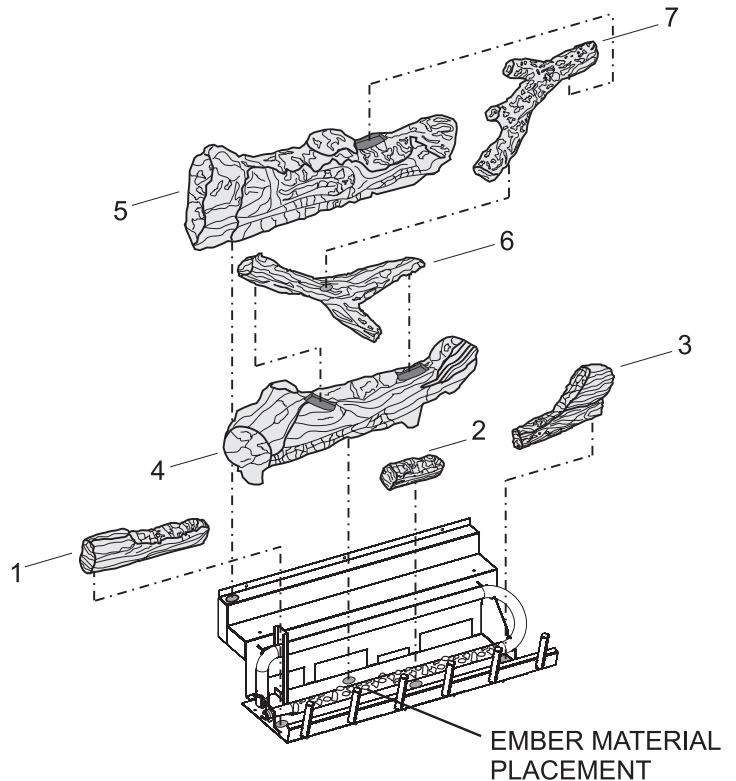

Figure 58
10. After all logs are positioned properly, apply glowing ember material to the front burner port area. To apply, carefully separate the ember material into small amounts no larger than "dime size" pieces. Fluffed up pieces one layer thick on top of the burner generally work best, and will provide the best ember glow. Do not place ember material more than one layer thick. No more than one small packet of ember material (part no. 15999) evenly placed on the burner, is recommended on DVD32 and DVD36 models. Using additional ember material will decrease the amount of ember glow effect. Extra ember material should be saved for future application as necessary. **See Figure 58.**
The positioning of logs is critical to safe and clean operation of this fireplace. Sooting and other problems may result if the logs are not properly and firmly positioned in the fireplace. Please refer to **Figure 57** and **Figure 58** and corresponding WARNING when completing following log placement steps.
11. After all logs are properly positioned, place small "dime" size pieces of Rockwool lightly across the front burner tube ports. Place the ember material (Rockwool pieces) side by side. Do not stack more than one layer of embers across the burner ports. **See Figure 58.**
Attention: Do not use **Figure 57** or **Figure 58** to order logs. Refer to parts lists and parts views on pages 60 to 63 to order logs and/or ember material for your appropriate fireplace model.